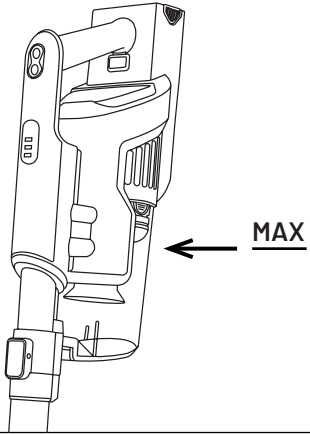

Fig 2
- Make sure the battery is securely in place. (Fig.2)